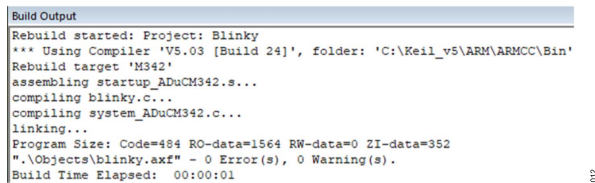

Figure 12. Build Output
- When the build is complete, the message shown in Figure 12 appears.